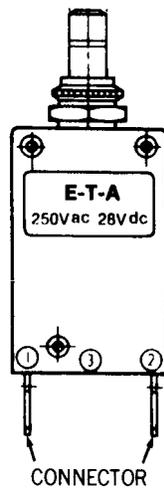

Fig. 4—Power Switch/Circuit Breaker
2.04 The power switch/circuit breaker is located on the rear panel of the Comm-Stor unit (Fig. 4). Perform the following steps to remove/replace the power switch/circuit breaker.